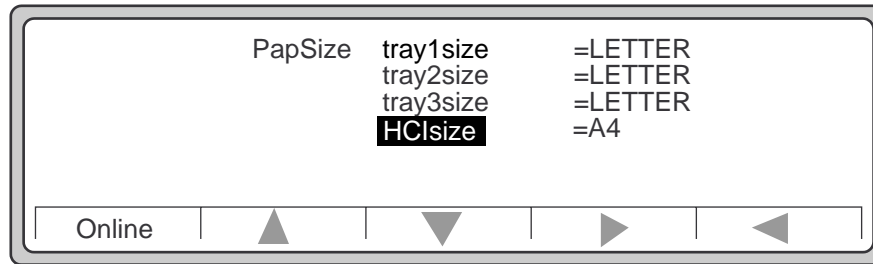

Figure 4-15 HCIsize Set to A4
5. Press **Select** to choose **A4** as the paper size for the HCI, as shown in Figure 4-15.